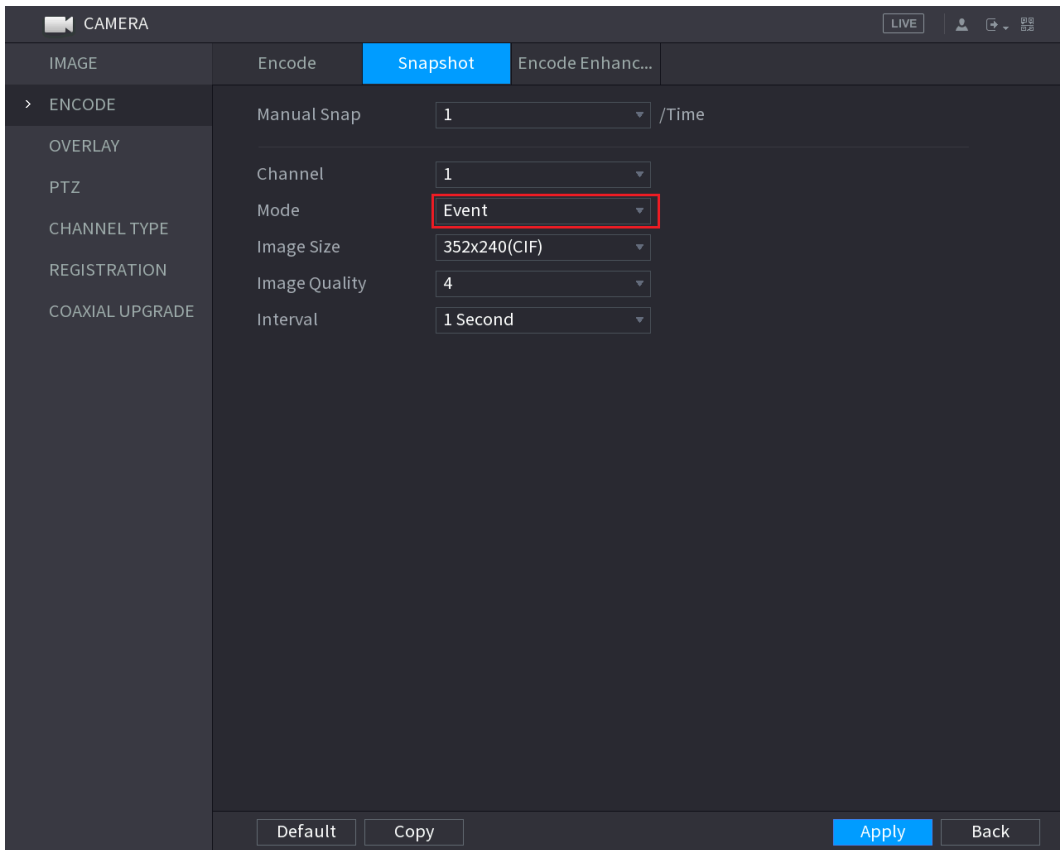

Figure 5-98
Step 2 In the **Mode** list, select **Event**, and then configure other parameters. See Figure 5-98.